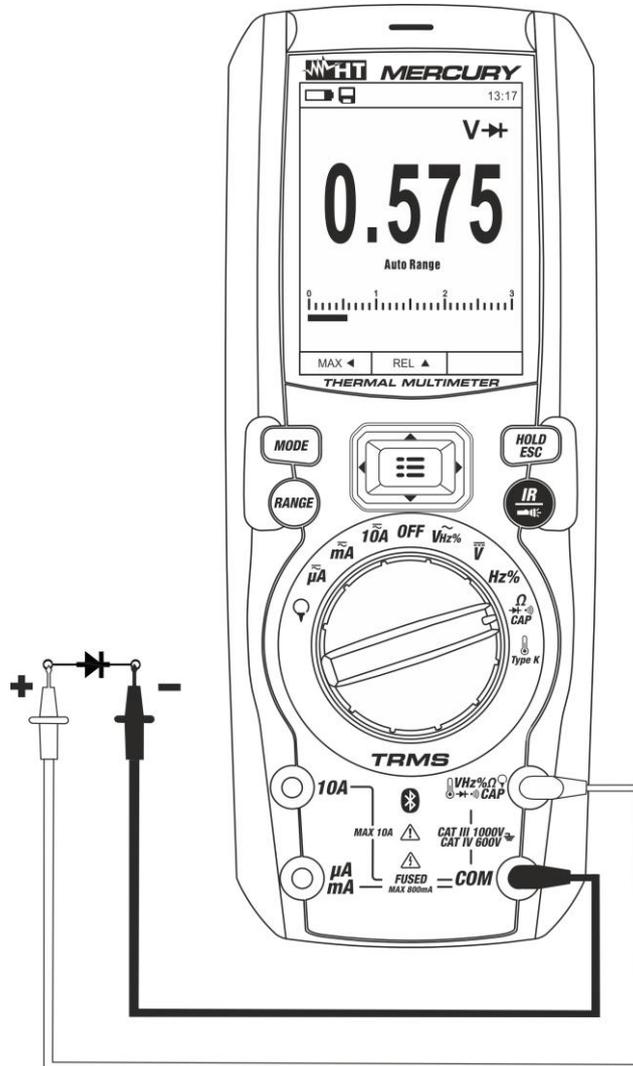

Fig. 25: Use of the instrument for diode test
4. Position the leads at the ends of the diode to be tested (see Fig. 25), respecting the indicated polarity. The value of directly polarized threshold voltage is shown on the display.
6. If the display shows message "**OL**", the terminals of the diode are reversed with respect to the indication given in Fig. 25 or the P-N junction of the diode is damaged.